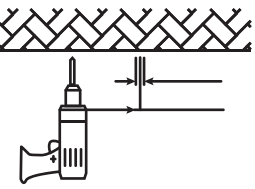

Figure 4
3. Using the U mount bracket as a template, mark and drill holes in the ceiling or other solid structure to which the luminaire will be attached. (See Figure 4)